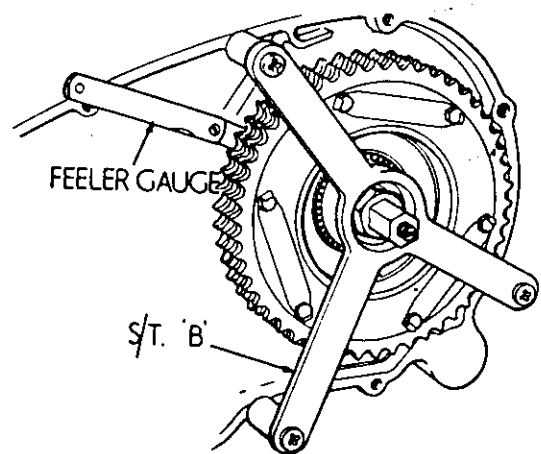

FIG. B90.
Take up service tool (B) 61-6103 and pass it over the centre boss of the shock absorber assembly. Secure each of the three legs of the tool to the joint face using the inner primary cover screws. Tighten into position (see Fig. B90).